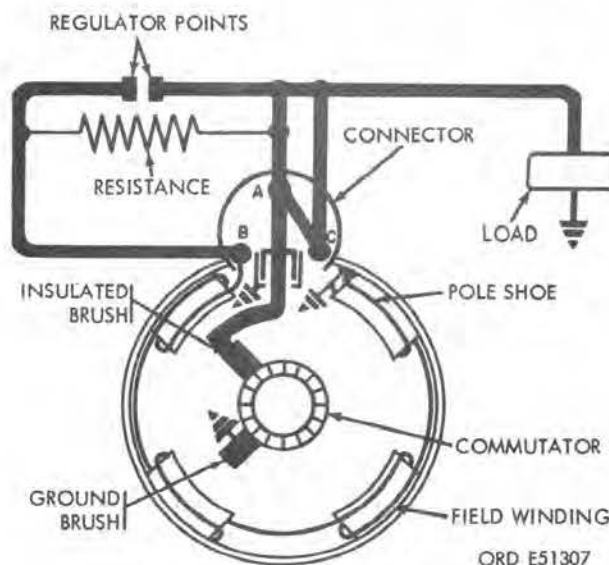
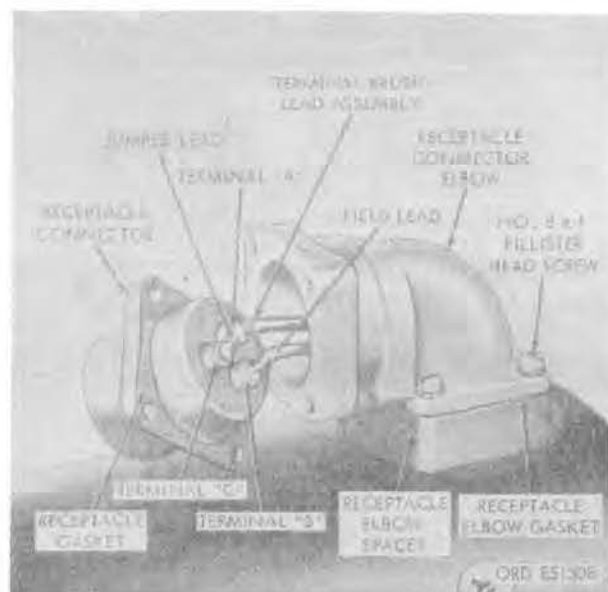

FIGURE 32. SCHEMATIC CIRCUIT WIRING DIAGRAM.
FIGURE 33. RECEPTACLE CONNECTOR WIRING.
(a) Touch one test probe of continuity tester on winding terminal (fig. 32) and the other probe on the housing. The lamp should light. If it does not light, the circuit as illustrated in figure 32 is "open". If the "open" is due to a broken lead or bad connection, it can be repaired, but if the "open" is inside one of the windings, the windings must be replaced.
b. Install three lead terminals in receptacle connector (refer to figure 32 for correct terminal positions). Lead from field winding must be soldered to "B" terminal. Insulated brush lead must be soldered to "A" terminal. Jumper lead must be soldered between "A" and "C" terminals, refer to figure 33. All connections must be made with rosin core solder.